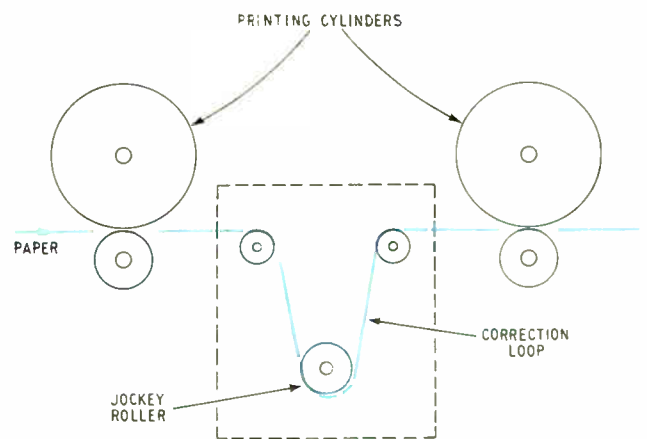

Fig. 1.—Diagrammatic representation of a multiple printing press
**B**EFORE outlining some of the methods used to provide automatic registration of colours in colour printing it is, perhaps, pertinent to give a brief outline of the method of printing colour. Colour prints are made up of a number of impressions of single colours which are printed over each other to form the final picture. This is done in a multiple printing press, which is, very diagrammatically, shown in Fig. 1. From this it can be seen that the paper to be printed is fed through several consecutive printing presses, each printing its own colour. In between each press the paper is fed over various drive and tension rollers. All the presses are driven by a common line shaft, or are driven at identical speeds, so that theoretically there is no reason for the impressions by the first press not to line up with the impressions by the subsequent presses.